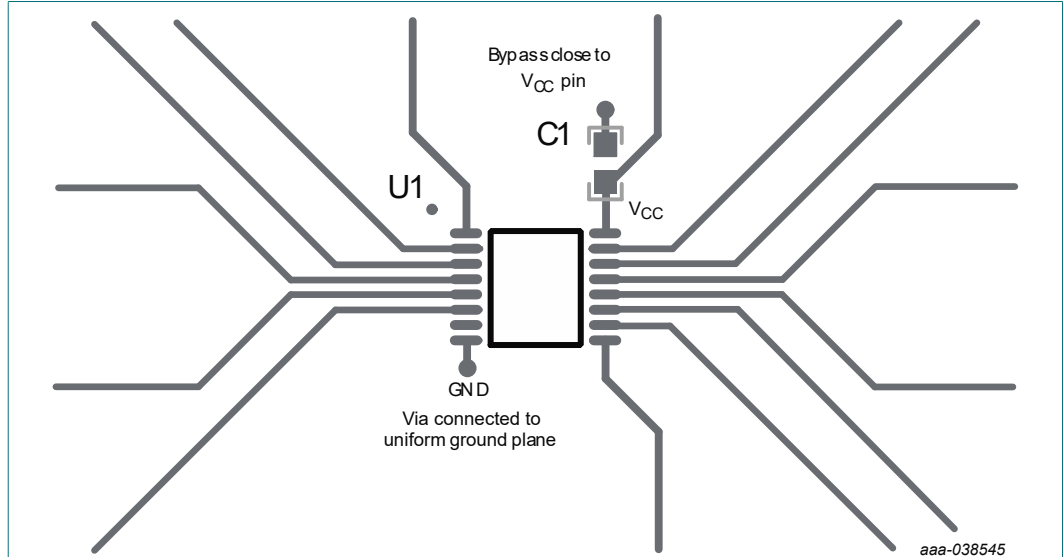

Fig. 13. NMUX1309 layout example with NMUX1309PW (TSSOP16/SOT403-1) package
The image provided below (Fig. 13) offers a glimpse into an example PCB layout with the (PW) package. Bypass capacitors should be positioned near the V_{CC} pin, and the GND pin should be connected to external/internal GND planes. A uniform GND plane helps in reducing noise and minimizing loop inductance, thereby ensuring optimal performance.